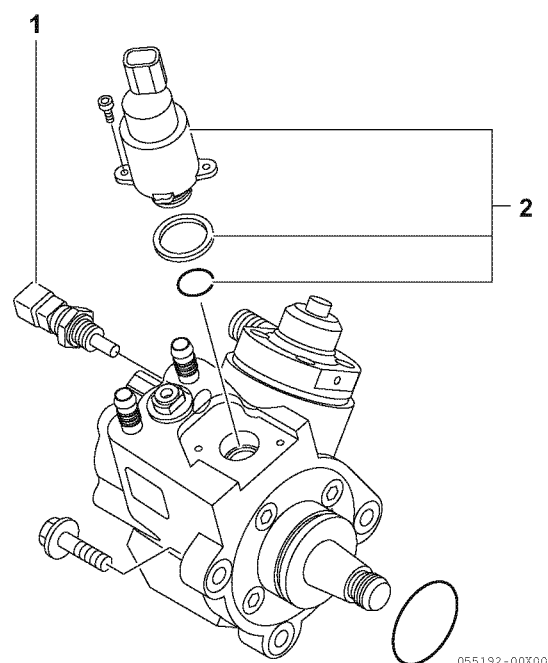

Figure 7-14
Spare parts for the fuel temperature sensor (**Figure 7-14, (1)**) and the fuel metering valve (suction control valve) (**Figure 7-14, (2)**) are available for replacement. See the below table for the part number and the tightening torque.